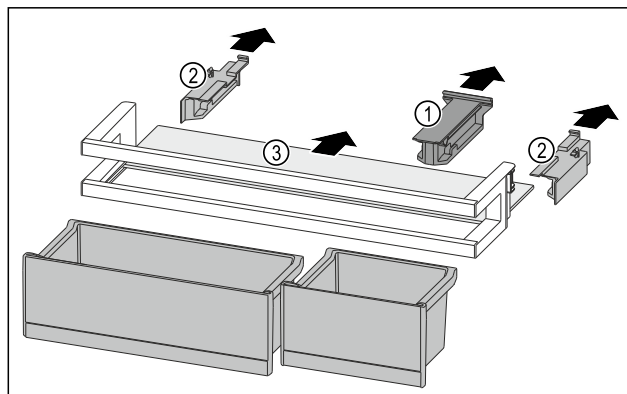

Fig. 168
- ▶ Pull off the holding part Fig. 168 (1).
- ▶ Pull off the side parts Fig. 168 (2).
- ▶ Remove the shelf Fig. 168 (3).